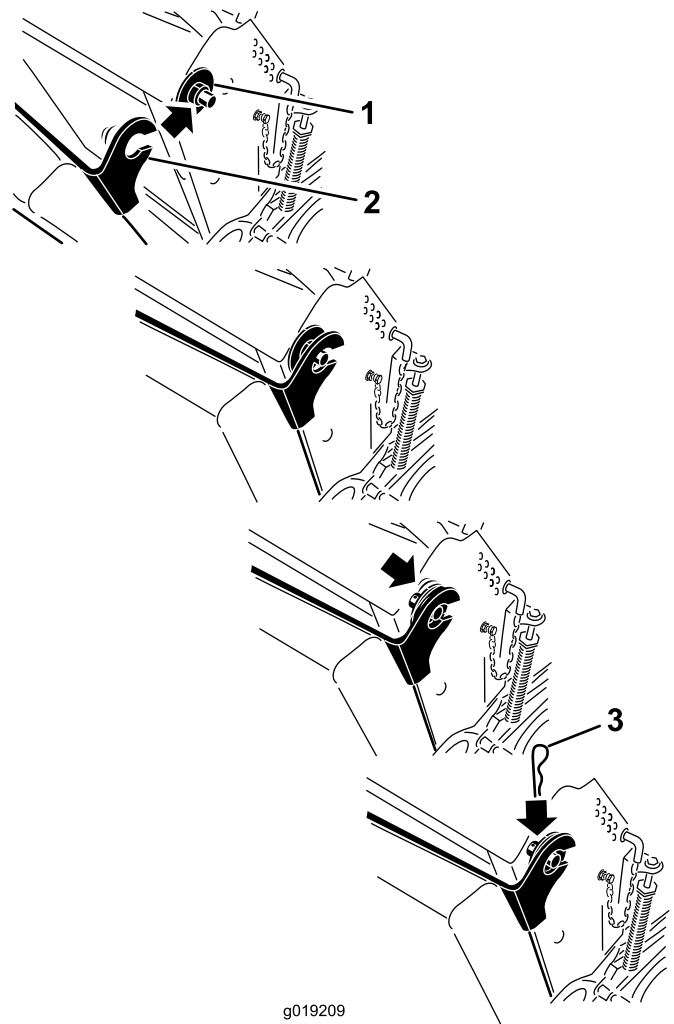

Figure 35
6. Raise the cushion and slide it onto the pins on both sides of the machine (Figure 35).
7. Slide the large washers with the plastic bushings into the cushion bracket, and secure them with a hairpin-cotter pin (Figure 35).